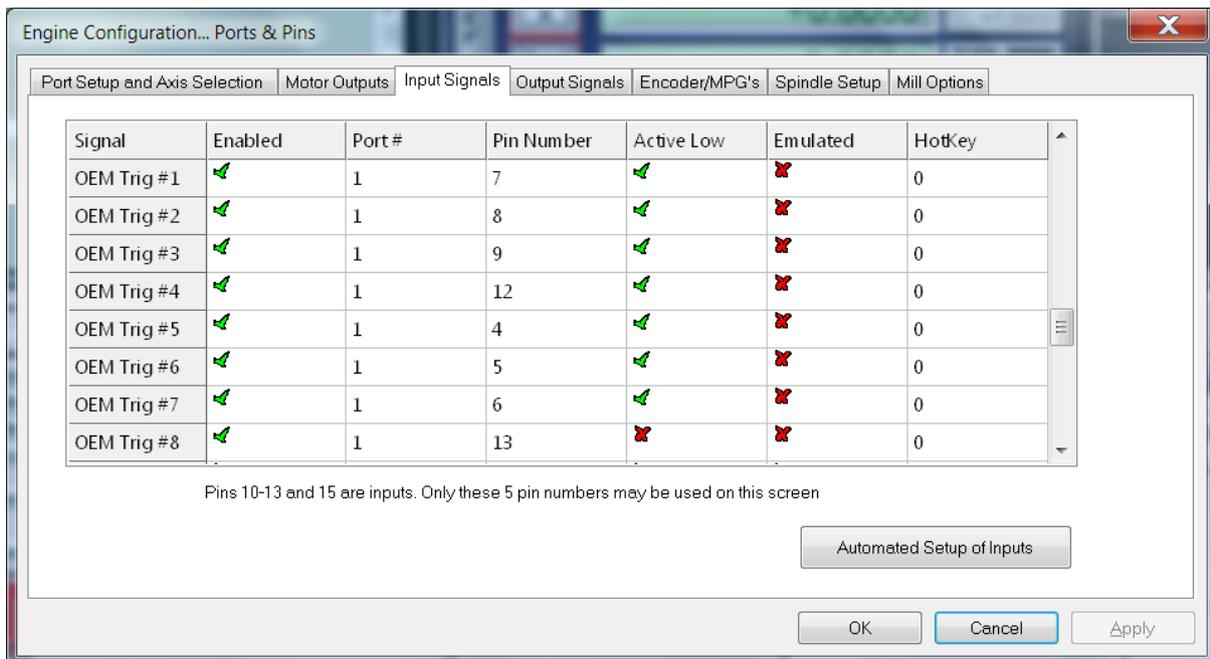

Figure 10.20 Example of setting up input pins for OEM input signals that are used for pendant functionality
- Pendant axis selector – enables setting up the functionality of the axis selector. Maximum of 6 switch positions are supported. Using OEM input# field it is possible (if needed) to change which OEM input signals are used for each switch position. Pin and port for digital inputs for these OEM signals can be set up using Mach3 Ports&Pins input configuration dialog (Figure 10.20).